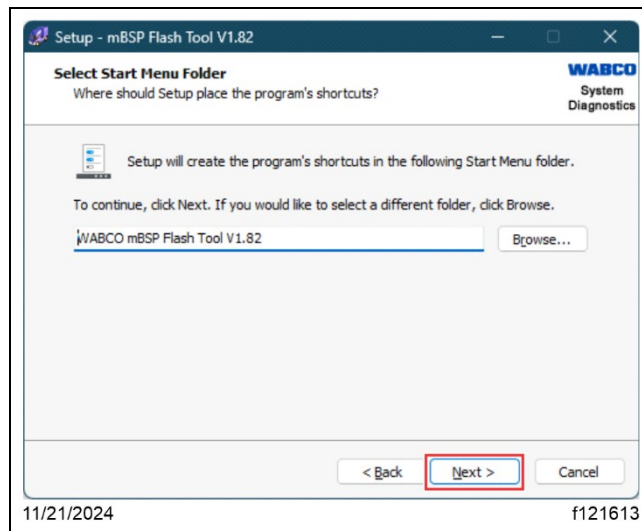

Fig. 38, Selecting the Start Menu Folder
7.9. On the 'Select Start Menu Folder' screen, select 'Next.' See Fig. 38.